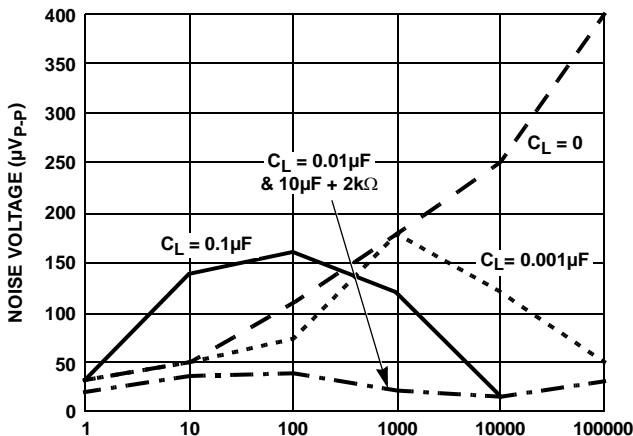
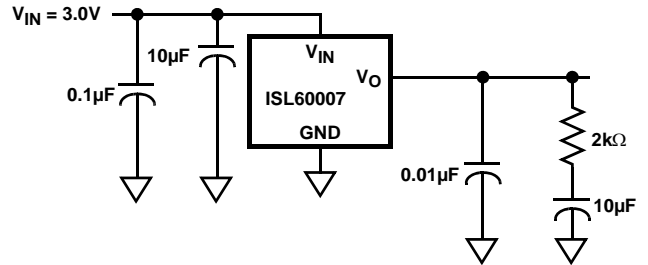

FIGURE 16. NOISE REDUCTION
FIGURE 17.
*Also see Figure 17 in Applications Information.
The output noise voltage in a 0.1Hz to 10Hz bandwidth is typically 30µV_{p-p}. This is shown in the plot in the Typical Performance Curves. The noise measurement is made with a bandpass filter made of a 1 pole high-pass filter with a corner frequency at 0.1Hz and a 2-pole low-pass filter with a corner frequency at 12.6Hz to create a filter with a 9.9Hz bandwidth. Noise in the 10kHz to 1MHz bandwidth is approximately 400µV_{p-p} with no capacitance on the output, as shown in Figure 16. These noise measurements are made with a 2 decade bandpass filter made of a 1 pole high-pass filter with a corner frequency at 1/10 of the center frequency and 1-pole low-pass filter with a corner frequency at 10 times the center frequency. Figure 16 also shows the noise in the 10kHz to 1MHz band can be reduced to about 50µV_{p-p} using a 0.001µF capacitor on the output. Noise in the 1kHz to 100kHz band can be further reduced using a 0.1µF capacitor on the output, but noise in the 1Hz to 100Hz band increases due to instability of the very low power amplifier with a 0.1µF capacitance load. For load capacitances above 0.001µF the noise reduction network shown in Figure 17 is recommended. This network reduces noise significantly over the full bandwidth. As shown in Figure 16, noise is reduced to less than 40µV_{p-p} from 1Hz to 1MHz using this network with a 0.01µF capacitor and a 2kΩ resistor in series with a 10µF capacitor.